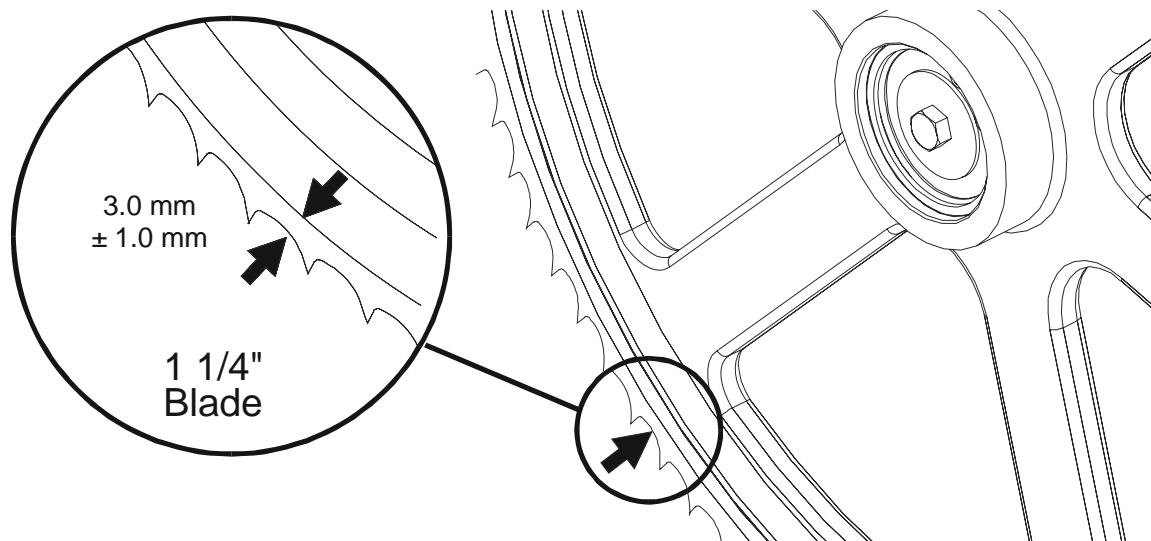

FIG. 6-1
**See Figure 6-1.** The blade wheels should be adjusted so that the gullet of 1 1/4" blades ride 1/8" (3 mm) out from the front edge of the wheels ( $\pm 1/26$  [1 mm]). The gullet of 1 1/2" blades should ride 3/16" (4.5 mm) from the front edge of the wheels ( $\pm 1/26$  [1 mm]). Do not let the teeth ride on the wheels.